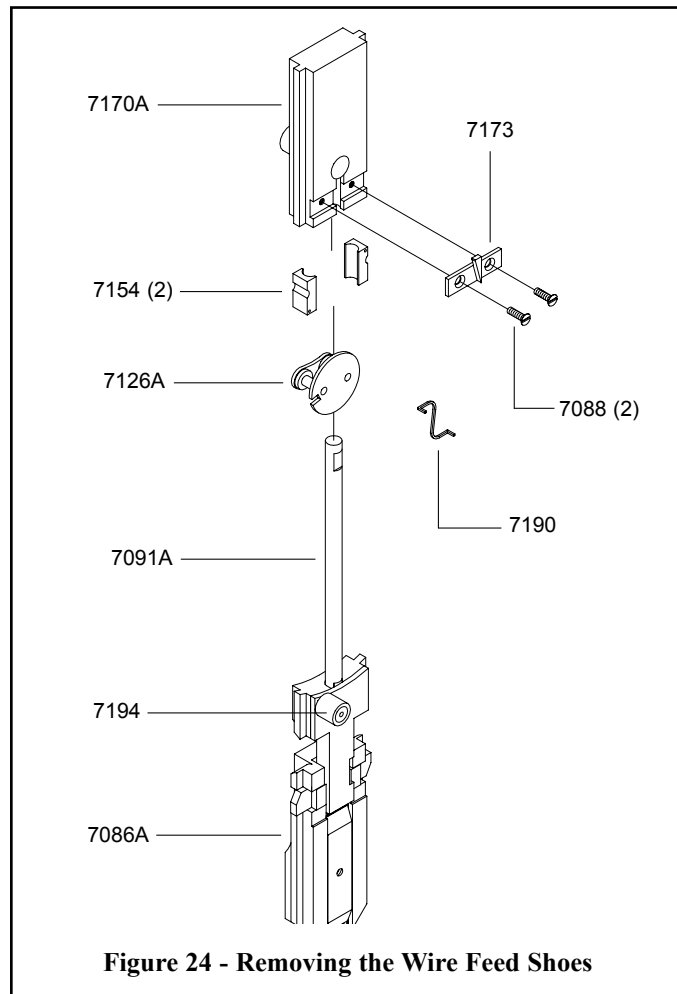

Figure 24 - Removing the Wire Feed Shoes
Removing and Replacing the Wire Feed Shoes (Figure 24)
Install two (2) Wire Feed Shoes into the Feed Grip so that the small holes on the one end of each piece are facing up and opposite from each other, when looking at the back of the Feed Grip. In the tunnel created by the slots on the back of each Wire Feed Shoe, try to insert the Driver Bar Assembly. (Make sure the side of the Driver Bar Assembly with the Swivel Operating Lever Cam Roll (7194) is on the same side as the notch in the Feed Grip. Refer to **Figure 24** for the correct orientation as this is critical. If this proves unsuccessful, file the small slot on the rear of both the Wire Feed Shoes with a 5/32" file so that the Driver Bar Assembly can be twisted between them while they are in place in the Feed Grip. The fit should be tight but still able to be adjusted by hand. A fit that is too tight will cause the brass Shoes to wear prematurely and a loose fit will cause inconsistent draw or cause the wire to be pulled from the Grip. When the fit is accurate, insert the Wire Feed Shoe Spring and twist it so the ends of the Spring are facing towards the small holes in the ends of the Wire Feed Shoes. Insert one end of the Wire Feed Shoe Spring into the hole in one of the Wire Feed Shoes. Compress the Spring to get the other end into the hole in the other Shoe.